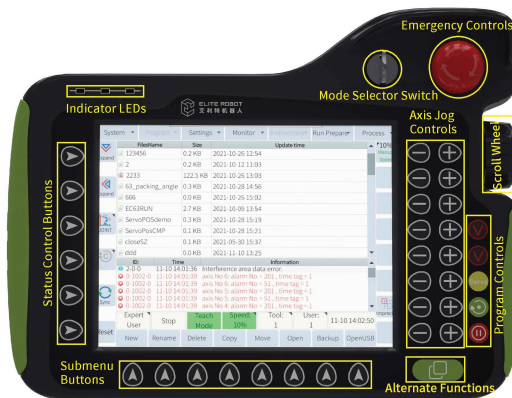

Figure 3-11 : Layout of teach pendant (front)
The front view of the teach pendant is shown in **Figure 3-11** .
6. Press the +/- button of the desired axis jog button (see **Figure 3-11**)